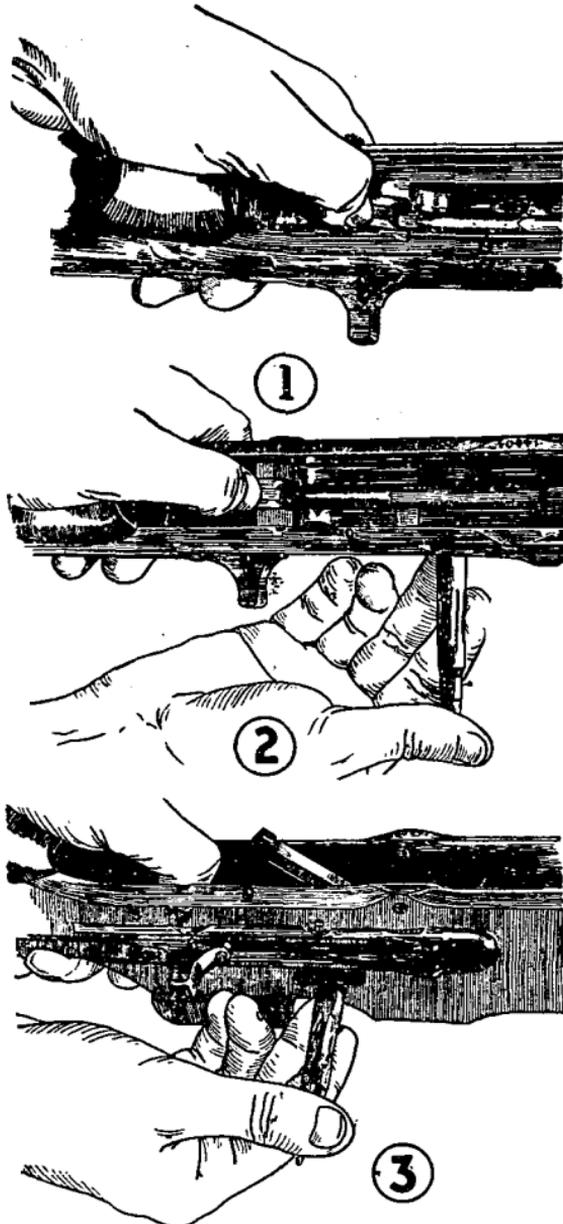

FIGURE 5.—Removing firing pin without disassembling.
■ 10. TO REMOVE FIRING PIN WITHOUT DISASSEMBLING (fig. 5).—To remove firing pin without disassembling the rifle, lay rifle upside down on table, muzzle to the front. Remove the trigger group. Place rim of cartridge under center of bolt guide. With the right hand, slowly pull the operating handle all the way to the rear, taking care not to dislodge the rim of the cartridge from beneath the bolt guide. With the left hand, palm up, grasp the stock so that at least two fingers of the left hand are on the operating handle, holding it to the rear, while the thumb of the left hand is on the bolt link in the rear of the receiver (fig. 5 ①). Release the operating handle with the right hand, it still being held in the rearmost position by the fingers of the left hand. Pry the bolt guide outward with the right hand by placing the middle finger of the right hand under the base of the cartridge while the thumb exerts pressure on the nose (fig. 5 ②). Press down on the bolt link with the thumb of the left hand, causing the bolt to break at the bolt lock pin (fig. 5 ③). Allow bolt to go forward until it stops. Change firing pin. Pull operating handle to the rear again and push bolt into position.